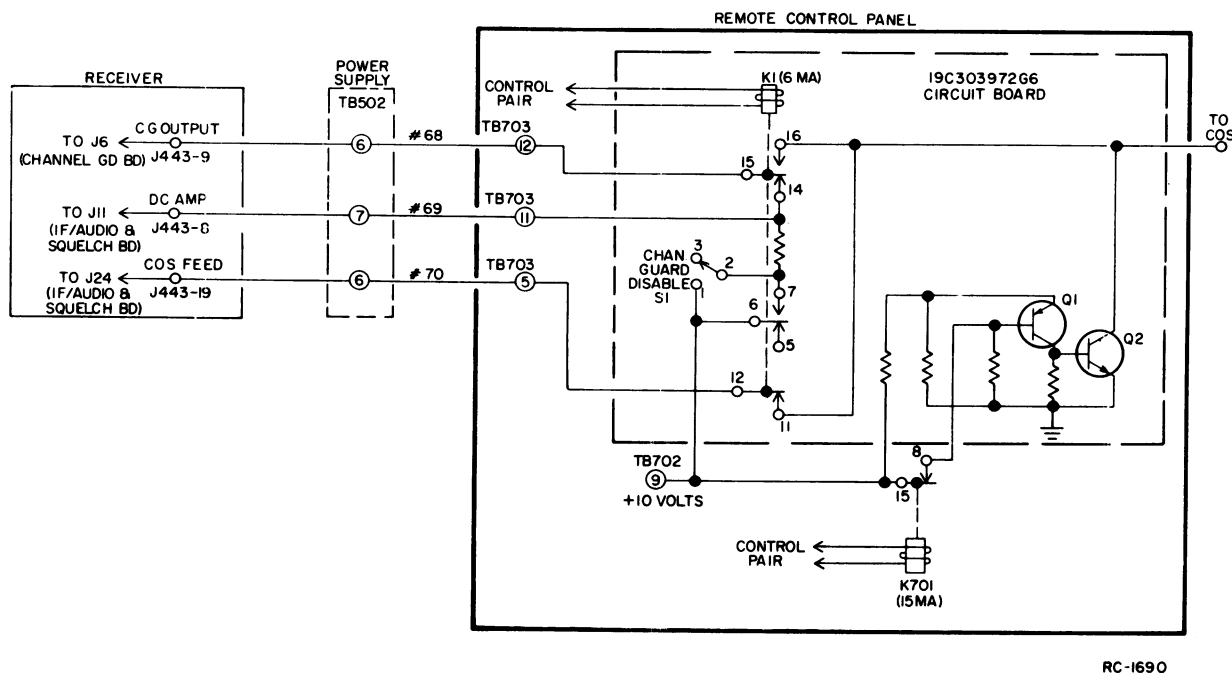

Figure 7 - Remote/Repeater Control with Channel Guard
When stations contain 2-watt receivers, the 19C303972-G6 Circuit Board is modified as indicated on the Service Sheet for Option 7659. The output from the Channel Guard decoder connects through normally-closed (NC) contacts of K1 to the DC amplifier to provide Channel Guard operation (see Figure 7).